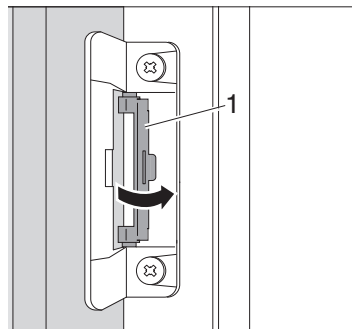

Fig. 332 Turning the latch back to the initial position
- Turn the latch (Fig. 332,1) back to the initial position.